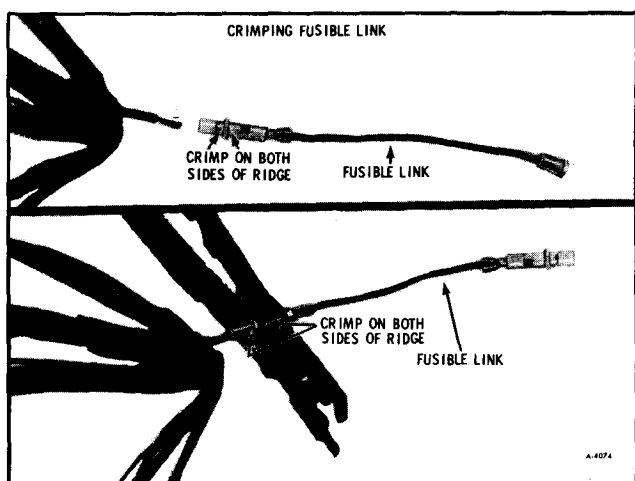

Figure 8—Fusible Link Replacement
Fusible Link Replacement (Figure 8)
3. Cut harness directly behind connector to remove damaged fusible link (figure 8).